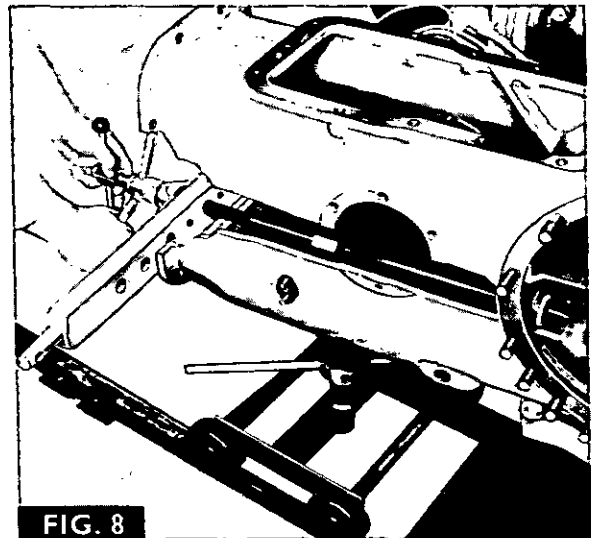

FIG. 8
1. Position the new bearing squarely over its bore in the centre housing from the rear. Fit tool MF 195-5/1 into the bearing from the rear. Screw the bar tool MF 195-5/2 into tool MF 195-5/1 from the front and, using a suitable support for main tool MF 195, pull the bearing into its bore in the centre housing as shown in Figure 8.